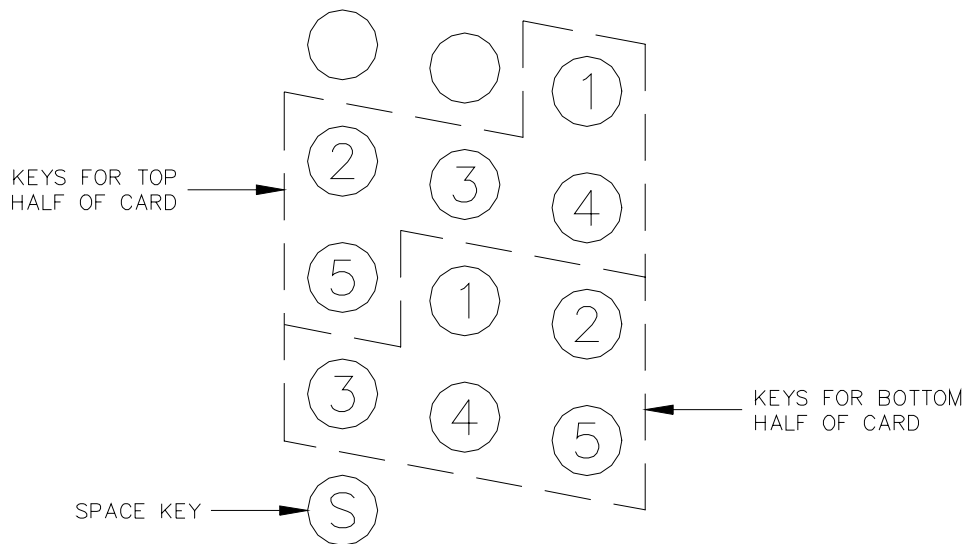

Figure 7-3. Key Diagram
6. The keyboard of the punch machine is marked 1-5, 1-5, S. As shown in Figure 7-3, the top keys numbered 1-5 are used for punching holes in the top columns on the card, while the bottom keys numbered 1-5 are used for punching holes in the bottom columns on the card. The S (or space) key is used for advancing to the next column after a digit of information has been punched. The S key is used for both the top and bottom half of the card.